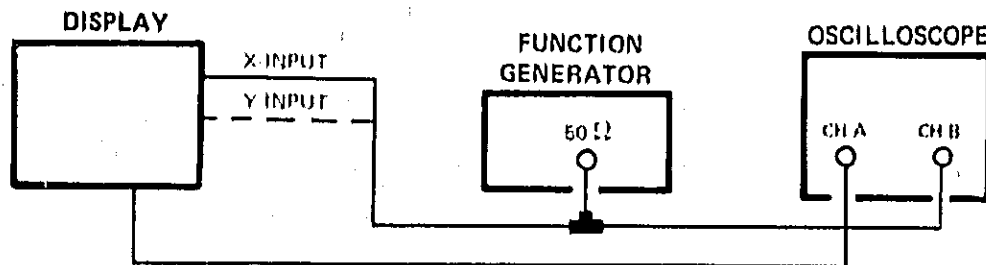

Figure 5-4. Input Attenuator Adjustment Test Setup
- Connect equipment as shown in figure 5-4.